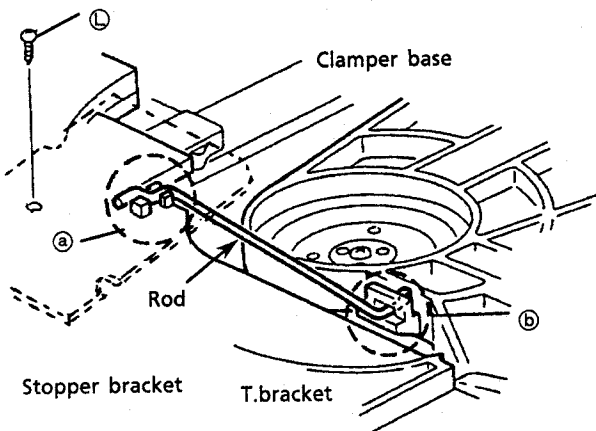

Fig. 19
(See fig. 19)
2. Remove the screw ① holding the stopper bracket.(See Fig.19) ---- (U.S.A and CANADA only)
3. Remove the rod from both ends' hooks which are secured on T.Bracket ② and clamber base ③. [See Fig. 19)